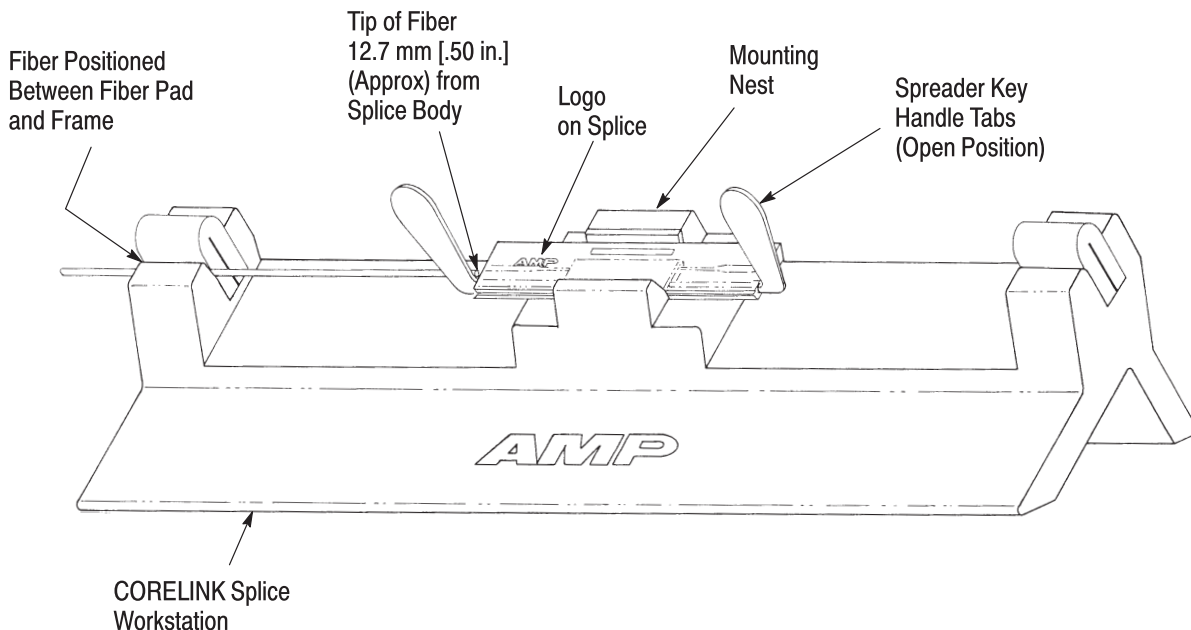

Figure 1
1. Center the splice, with the logo on the left, in the mounting nest of the workstation. Refer to Figure 1.
3. Turn both key handle tabs 90° upward, as shown in Figure 1. The splice is now open.
4. Grasp either fiber with both hands and position the fiber into the slot between the fiber pad and the frame of the workstation, as shown in Figure 1. Pull the fiber toward the splice until the fiber is taut and the tip is approximately 12.7 mm [.50 in.] from the splice body. Repeat this step for the other fiber.